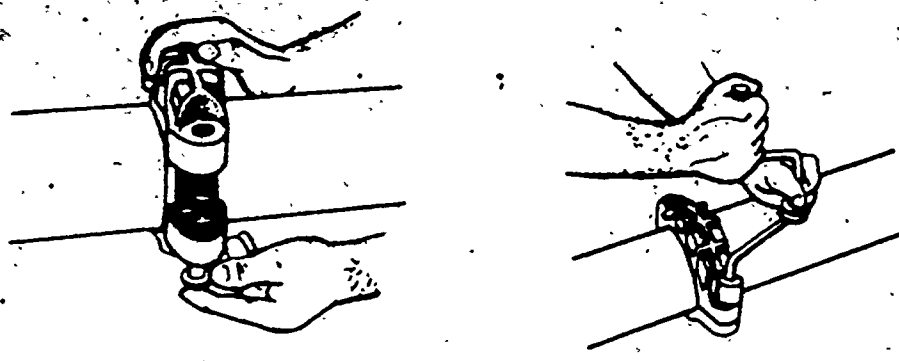

Figure 6. Installing Bolts and Securing Bolts
3. Slide gasket into central position over the pipe ends, see figure 6.
4. Put on self-centering housing clamp; insert bolts and nuts, figure 6.
5. Take up nuts uniformly until housing clamps are firmly secured together, metal to metal. Excessive bolt tension is unnecessary, figure 6.